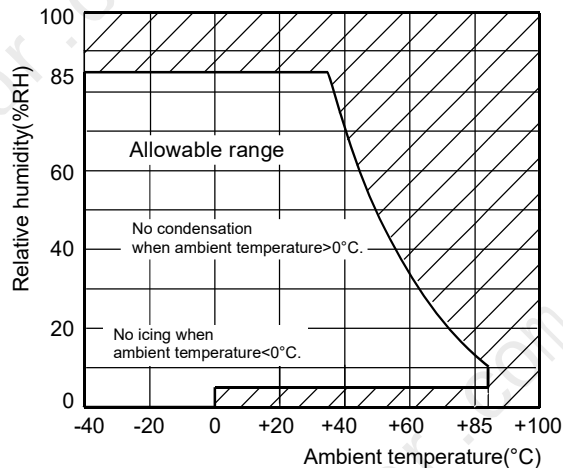

Figure 1
1.1 Please avoid direct sun radiation and keep ambient temperature, humidity and air pressure during usage, storage and transport. The allowable range of temperature and humidity are shown in non-shaded area of Figure 1: